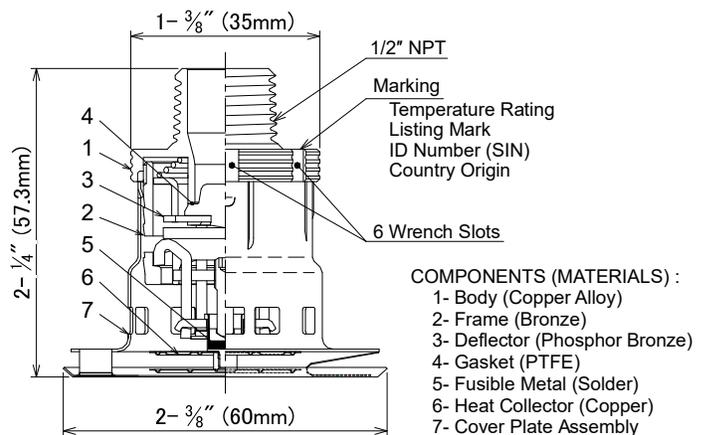

Figure 1: Model CN-QR, K = 5.6
- **Physical Characteristics:** Ref. Figures 1